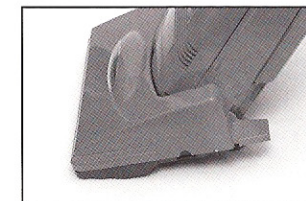

Fig. 8
2. Middle Position: This position is for normal cleaning [Fig. 8]. While in the middle position, the front of the nozzle can be raised for crossing thresholds between rooms by lowering the handle.